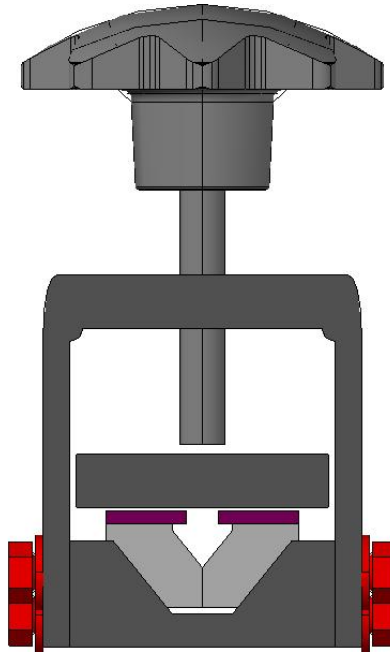

Figure 6
12. Screw a knob into the threaded holes of the handle brace bars and gently tighten the center knob first. Then tighten the (2) outside knobs. Repeat this procedure to make sure even pressure is applied to all wing nuts. Check to make sure rubber cushion strips are even and in proper position. **HAND TIGHTEN ONLY**(REF FIG 6)